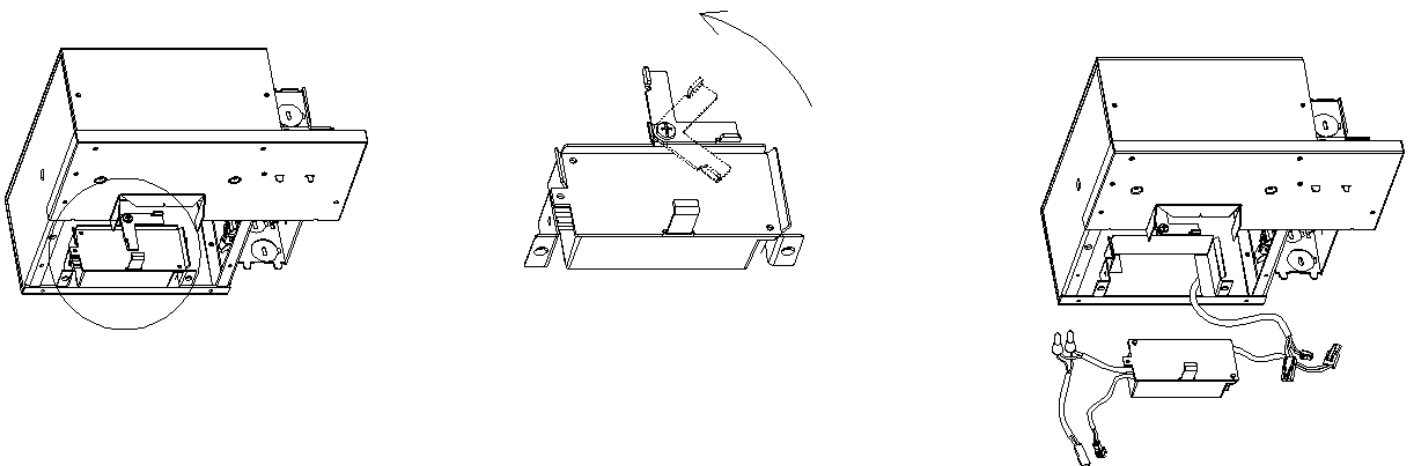

FIG 23
4. Rotate driver door stop counterclockwise 90°, take driver assembly panel out (See **Fig 23**)